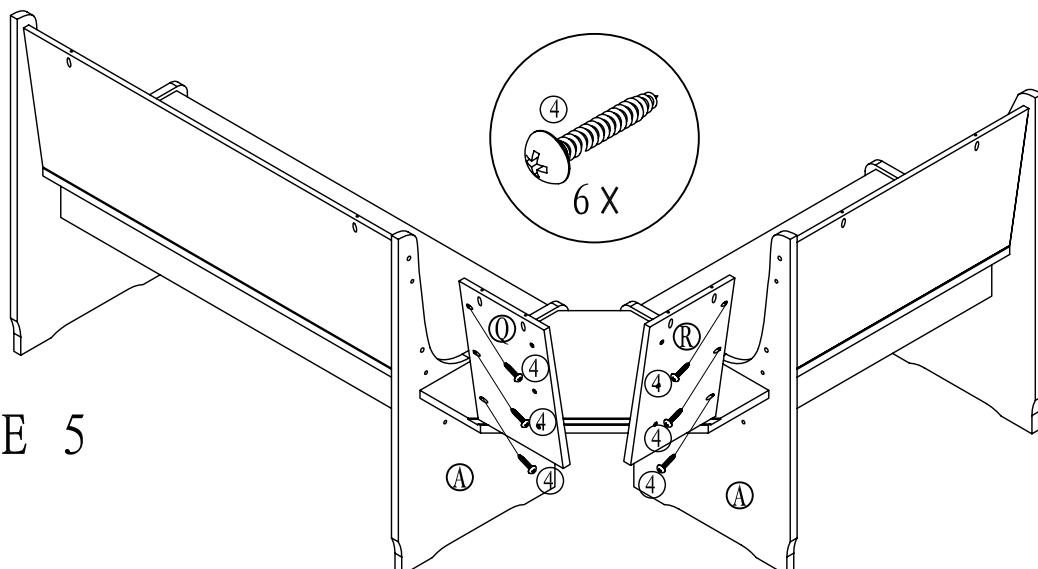

FIGURE 5
- 2) SECURE USING (06) SCREWS ④ AND PHILLIPS HEAD SCREWDRIVER (NOT PROVIDED), AS SHOWN IN FIGURE 5.